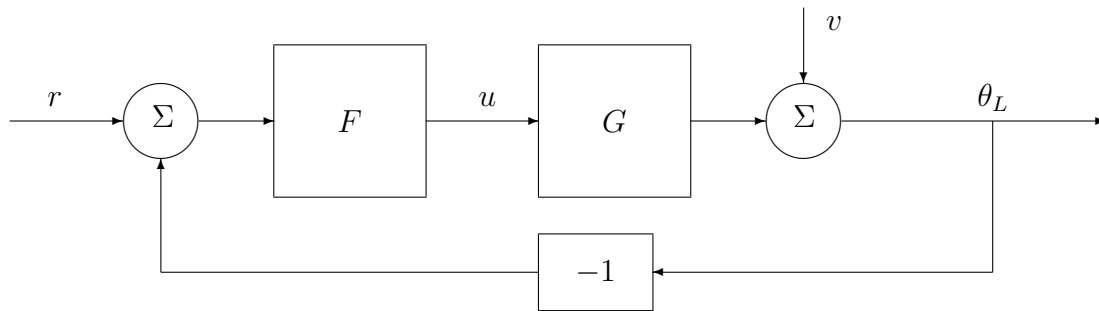

Figure 3: Control system.
First we want to control the system using only a proportional controller. This is shown in Figure 3 where  $F(s) = K$ . The signal  $v$  is a disturbance that will be considered later, for now disregard it, i.e.,  $v = 0$ .
**Assignment 8.** Calculate and plot the Bode diagram of the sensitivity functions  $S(s)$  with the proportional controller **and** with the controller  $F(s)$  from Assignment 6 in the same plot (*hint: `Bodemag(S1,S2)`*). The sensitivity function is the transfer function from  $v$  to  $\theta_L$  in Figure 3. For which frequencies do the controllers attenuate the effect of disturbances on the output? For which frequencies are the effect of disturbances amplified?